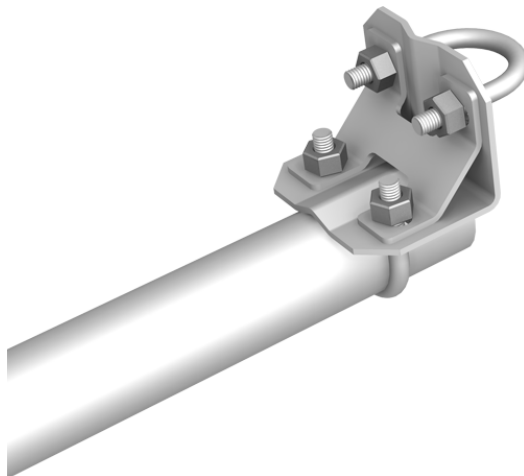
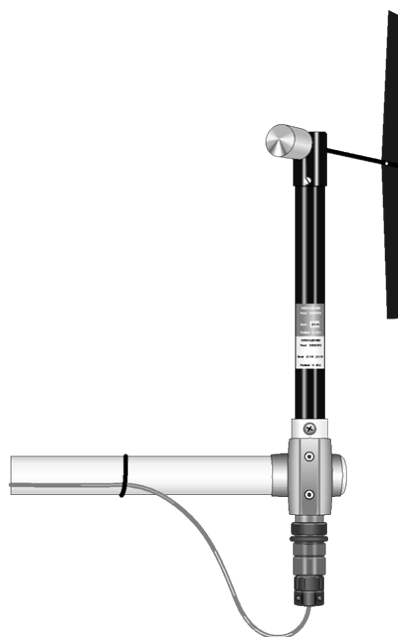

FIGURE 7-2. CM220 mount attached to a crossarm
FIGURE 7-3. The 024A mounted to a crossarm via the 17953 NU-RAIL
6. Insert the sensor in the CM220 (FIGURE 7-2) or NU-RAIL fitting (see FIGURE 7-3).
10. Secure the cable to the crossarm and tripod/tower using cable ties (FIGURE 7-3).